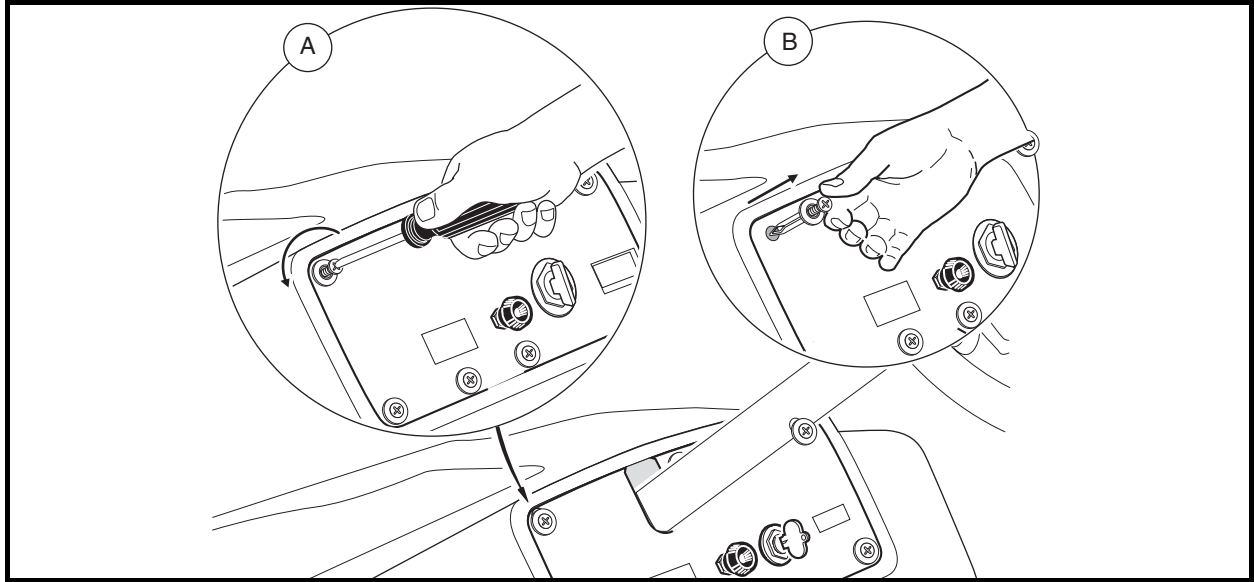

Figure 23-1 Instrument Panel Removal – 800 and 810
- 3.1. Loosen seven Tuflok screws, but do not remove screws completely, as shown in Detail A (**Figure 23-1, Page 23-2**).